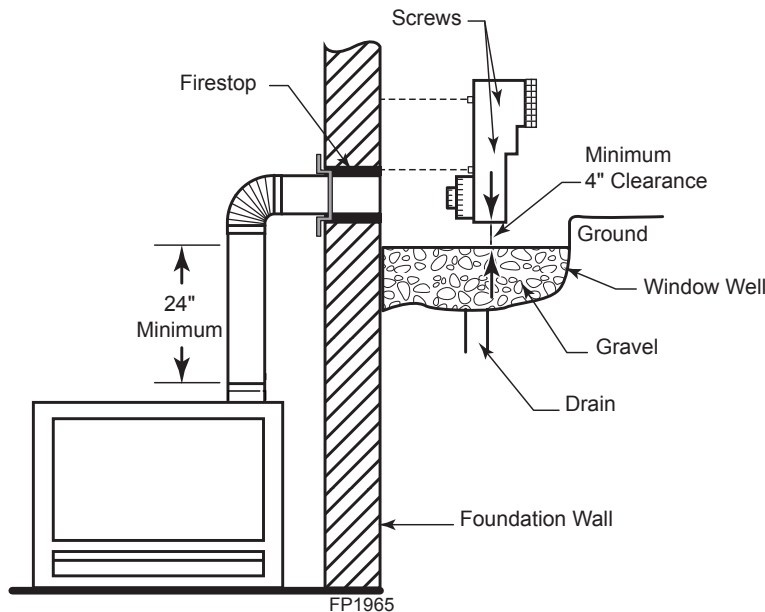

Figure 28 - Below Grade Installation
2. Remove soil to a depth of approximately 16" below base of snorkel. Install drain pipe. Install window well (not supplied). Refill hole with 12" of coarse gravel leaving a clearance of approximately 4" below snorkel. *Figure 28*
6. Level the soil so as to maintain a 4" clearance below snorkel. *Figure 28*
If the foundation is recessed, use recess brackets (not supplied) for securing lower portion of the snorkel. Fasten brackets to wall first, then secure to snorkel with self drilling #8 x 1/2" sheet metal screws. It will be necessary to extend vent pipes out as far as the protruding wall face. *Figure 28*
- Vertical installations up to 40' (12 m) in height. Up to a 10' (3 m) horizontal vent run can be installed within the vent system using a maximum of two 90° elbows. *Figure 28*